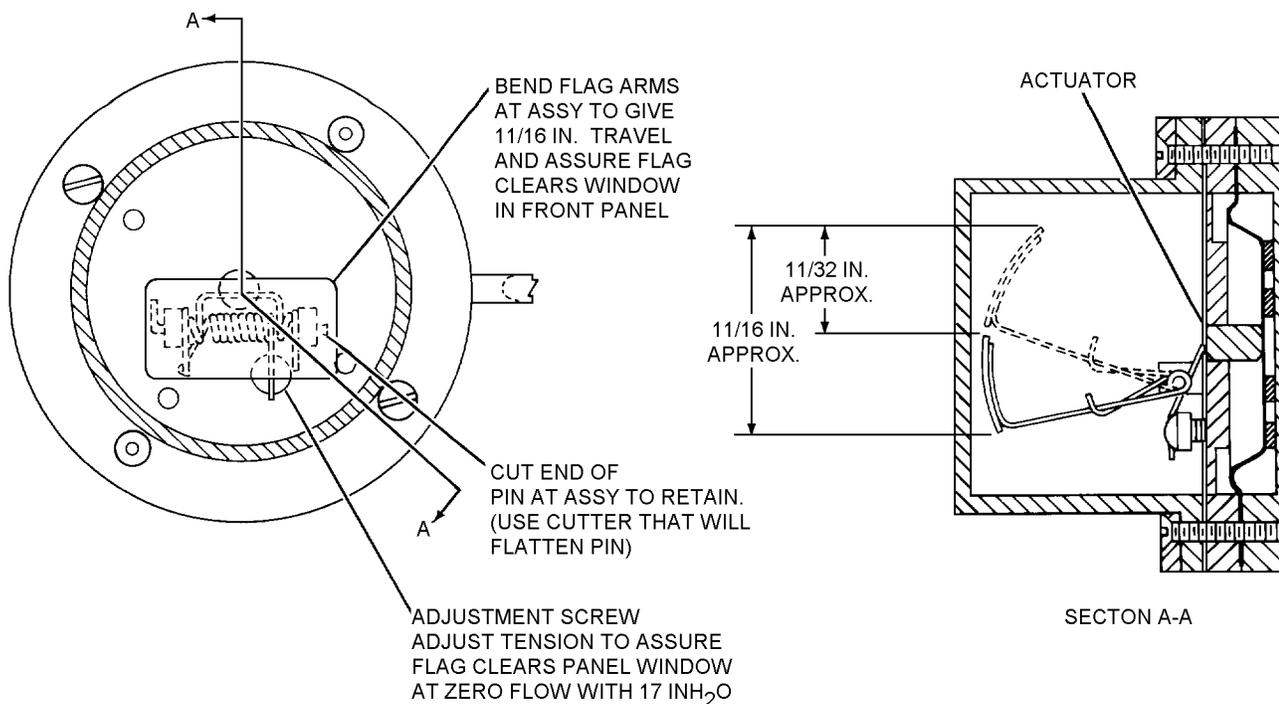

Figure 14-5. Blinker Assembly Adjustments
1. Turn screw (7) into guide (8), leaving three threads showing, as illustrated in figure 14-5.
2. Install the flag and lever assembly (4) and spring (6) onto guide (8) with blinker pin (5). End of blinker spring (6) must be positioned to rest in slotted head of screw (7), as illustrated in figure 14-5.
3. Crimp end of blinker pin (5) to retain assembled parts.
4. Stack blinker diaphragm assembly (11), actuator guide (8), and actuator guide on blinker tubing and base plate assembly (12). Ensure screw holes are aligned.
5. Adjust flag and lever assembly as shown in figure 14-5.
6. Install gasket (9) Ensure notch in gasket (9) is aligned with hole in blinker tubing and base plate assembly (12). Install cover (3), plate retainer (1) and secure with screws (2).
a. If flag did not completely open at flows of 8 lpm, remove plastic cover (3), and rotate adjustment screw one turn clockwise.
c. Reinstall cover (3).